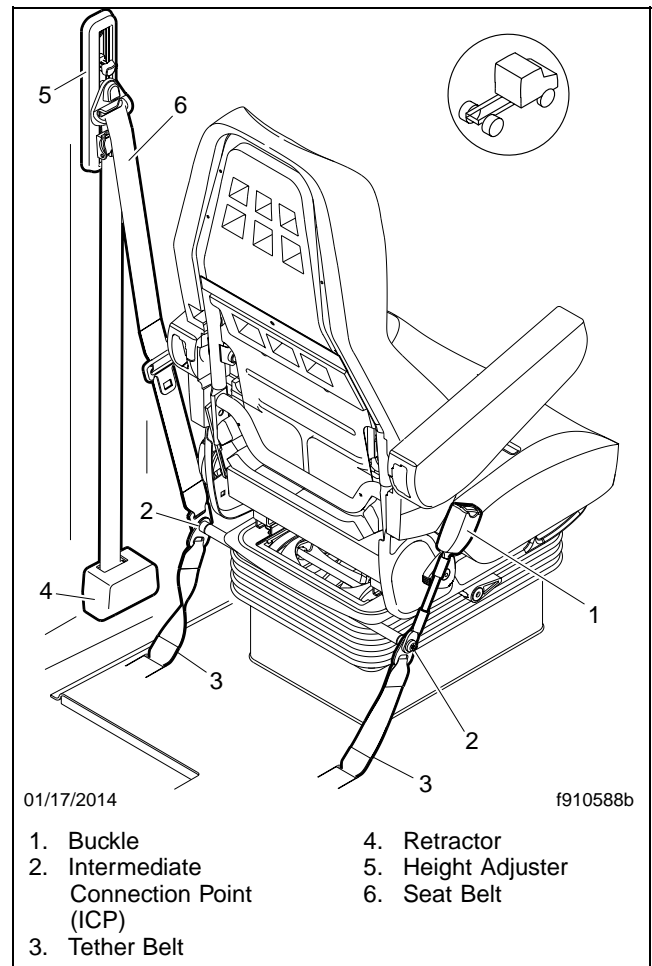

Fig. 14, Seat Belt Installation, Air Suspension Seats
6. Remove the Torx® screws that attach the seat belt and tether belts to the intermediate-connection-point (ICP) bar. See Fig. 14.
2. Attach the seat belt and tether belts to the intermediate-connection-point (ICP) bar. See **Fig. 14**. Tighten the Torx screws 35 to 50 lbf-ft (48 to 68 N·m).